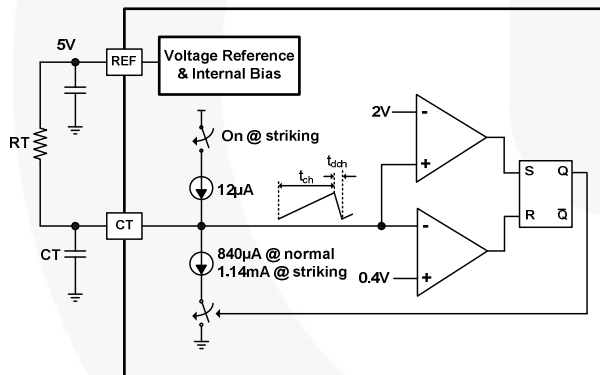

Figure 39. Main Oscillator Circuit
**Main Oscillator:** In normal mode, the external timing capacitor (CT) is charged by the current flowing from the reference voltage source, which is formed by the timing resistor (RT) and the timing capacitor (CT). The sawtooth waveform charges up to 2V. Once CT voltage reaches 2V, the CT starts discharging down to 0.4V. Next, the CT starts charging again and a new switching cycle begins, as shown in Figure 39. The main frequency is programmed by adjusting the RT and CT value. The main frequency is calculated as: